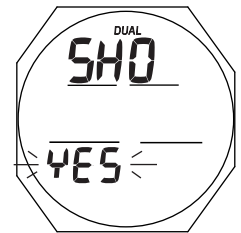

Fig. 23 - SET SHOW DUAL (with Watch Main Time)
**Show Dual Time**, information includes (Fig. 23):